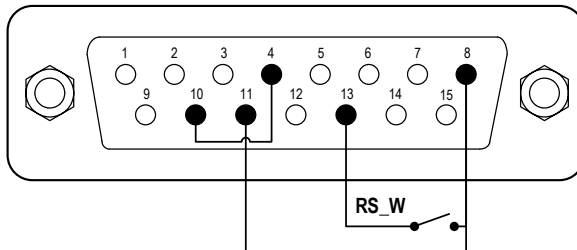
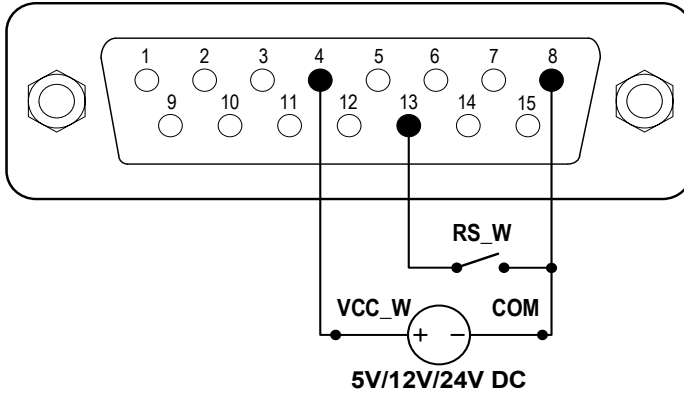

Figure 19. Logic Level 1 Control with Internal 12V Power Source
Figure 20. Logic Level 1 Control with External Power Source
- 1) Power off the pump. Wire the DB15 connector as shown in Figure 19 or Figure 20, and connect it to the DB15 port on the rear of the pump.